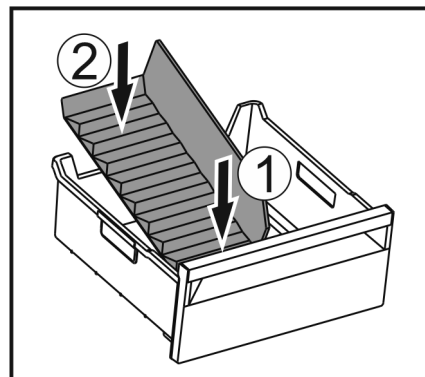

Fig. 128
- ▶ Insert the front part of the ice compartment divider. Fig. 128 (1)
- ▶ Lower the rear part of the ice compartment divider to the drawer bottom. Fig. 128 (2)